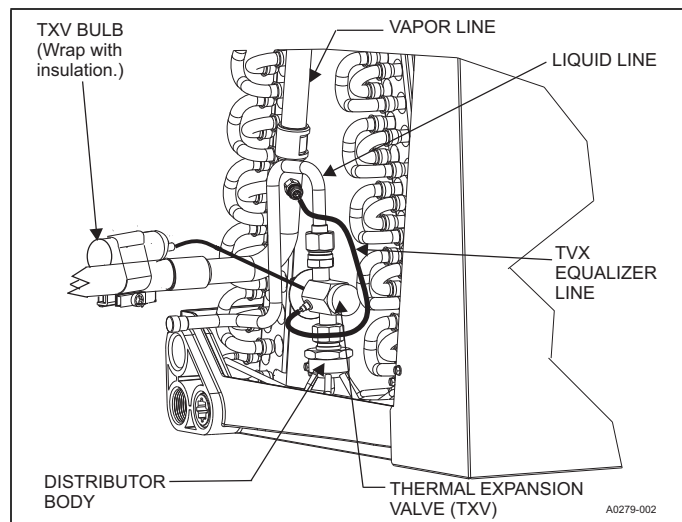

FIGURE 7: TXV Bulb and Equalizer Line Installations
6. Install the TXV equalizer line onto the vapor line by hand tightening the 1/4" SAE coupling nut to the equalizer fitting, and apply an additional 1/3 turn to seal. See Figure 7.
8. Install the TXV bulb to the vapor line near the cabinet, using the bulb clamp(s) furnished with the TXV assembly. Ensure the bulb is making maximum contact. See Figures 7 and 8.